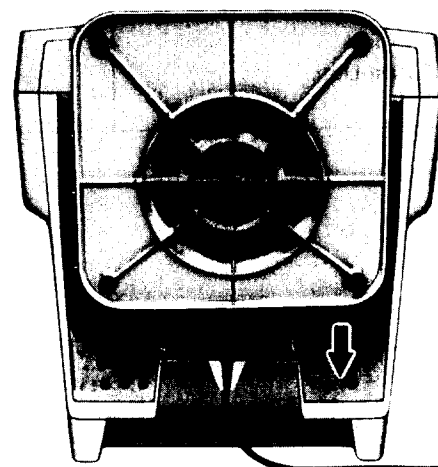

Figure 16
- Slide the swivel down and remove it. (Figure 16)